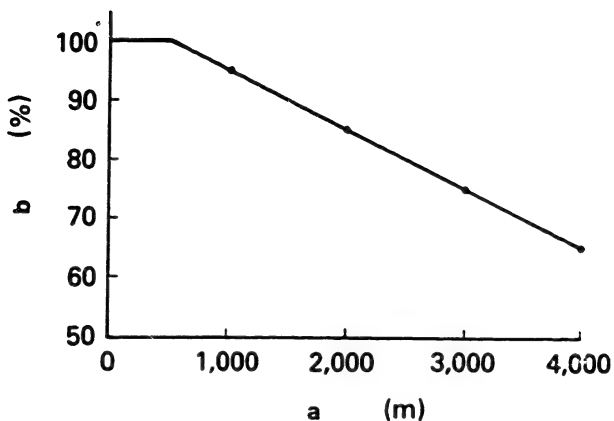
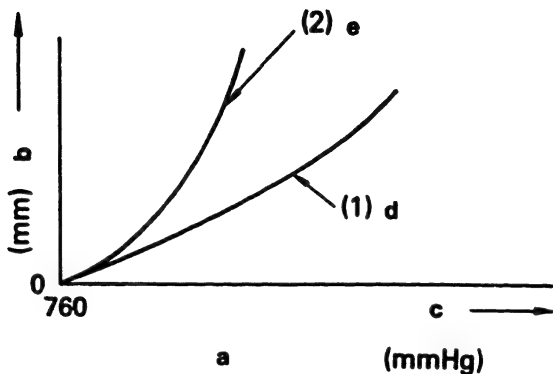
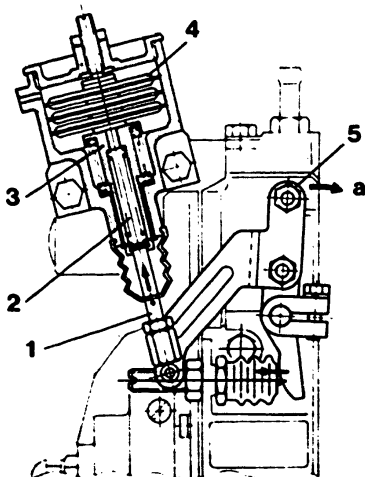

Fig. 15
Fig. 19 Relationship between atmospheric pressure and bellows extension
Fig. 21
In order to prevent the above problems, the full-load fuel injection quantity must be adjusted to compensate for altitude, as shown in Fig. 15.
- d = (1) without spring force**
- e = (2) Set force applied by spring**
Negative pressure acting on the bellows (2) causes the bellows to extend in an axial direction as shown in Fig. 19.
As a result, the bellows extension characteristics shown in Fig. 19 are obtained, enabling control of fuel injection as shown in Fig. 15. The spring in the sleeve (3) is compressed by the pushrod when the control lever (31) is moved in the "fuel increase" direction at engine starting. (see Fig. 21). Control lever operation is therefore possible without excess force being applied to the bellows.